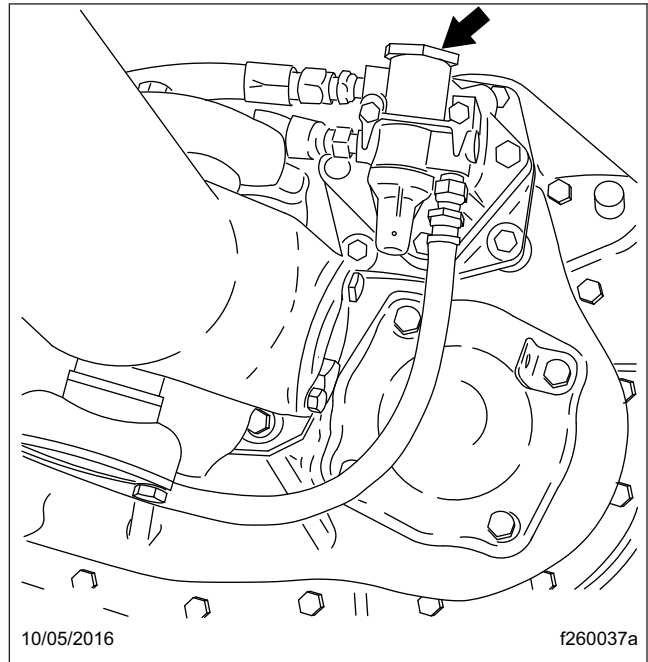

Fig. 9, Air Filter/Regulator Location
2. Clean the outside of the air filter/regulator with cleaning solvent. See Fig. 9.